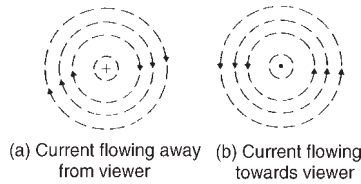

Figure 8.3
When dealing with magnetic fields formed by electric current it is usual to portray the effect as shown in Figure 8.3. The convention adopted is:
- (i) Current flowing away from the viewer, i.e. into the paper, is indicated by  $\otimes$ . This may be thought of as the feathered end of the shaft of an arrow. See Figure 8.3(a).
- (ii) Current flowing towards the viewer, i.e. out of the paper, is indicated by  $\odot$ . This may be thought of as the point of an arrow. See Figure 8.3(b).
For example, with current flowing away from the viewer (Figure 8.3(a)) a right-hand thread screw driven into the paper has to be rotated clockwise. Hence the direction of the magnetic field is clockwise.
If the current-carrying conductor shown in Figure 8.3(a) is placed in the magnetic field shown in Figure 8.13(a), then the two fields interact and cause a force to be exerted on the conductor as shown in Figure 8.13(b). The field is strengthened above the conductor and weakened below, thus tending to move the conductor downwards. This is the basic principle of operation of the electric motor (see Section 8.4) and the moving-coil instrument (see Section 8.5).